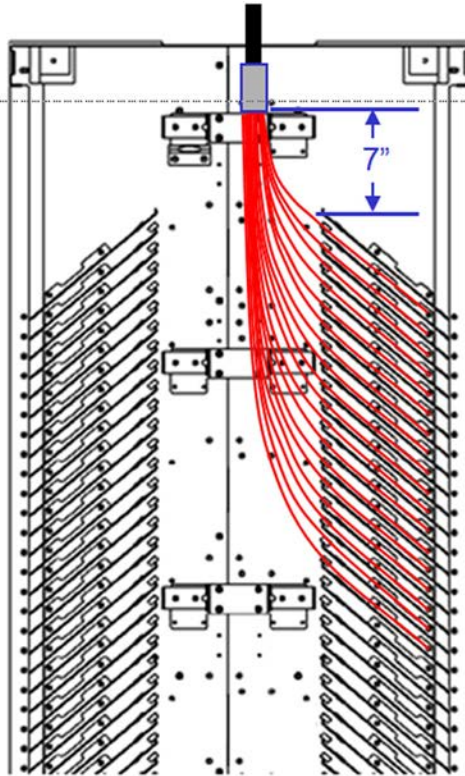

Figure 37. 192-Fiber IFC Blocking Kit Position
- b. Mark the cable to identify the blocking kit location as well as the front of the cable for positioning of the Blocking Kit as shown in Figure 37